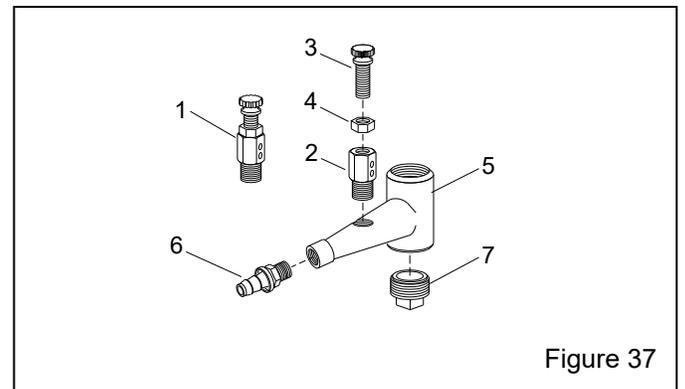

Figure 37
9.6 Metering Valve, BNP – Figure 37